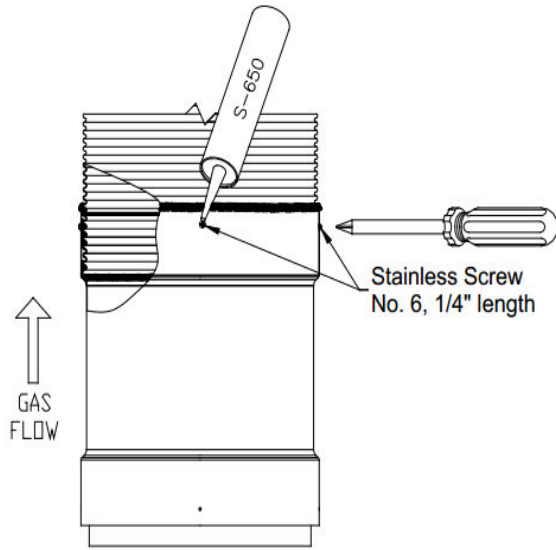

Figure 21 -SecureSeal Flex screws
- 2.5. Add the red S-650 caulking over the screws (Figure 21).